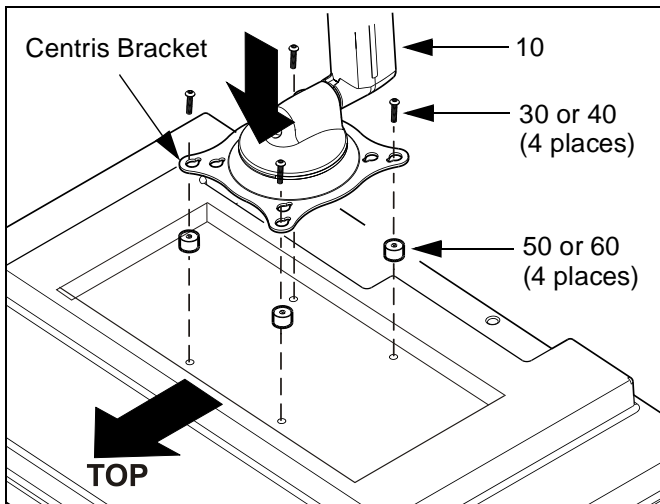

Figure 4: Display Installation - Recessed Mount
6. Pick up and orient the mount (10) such that the mounting holes in the Centris bracket are aligned with the holes in the spacers; rotate the bracket as required (See Figure 4).
7. Using Phillips screwdriver, install four selected screws through the mounting holes in Centris bracket, through the spacers, into the display (See Figure 4). Tighten all four screws. Do not overtighten!